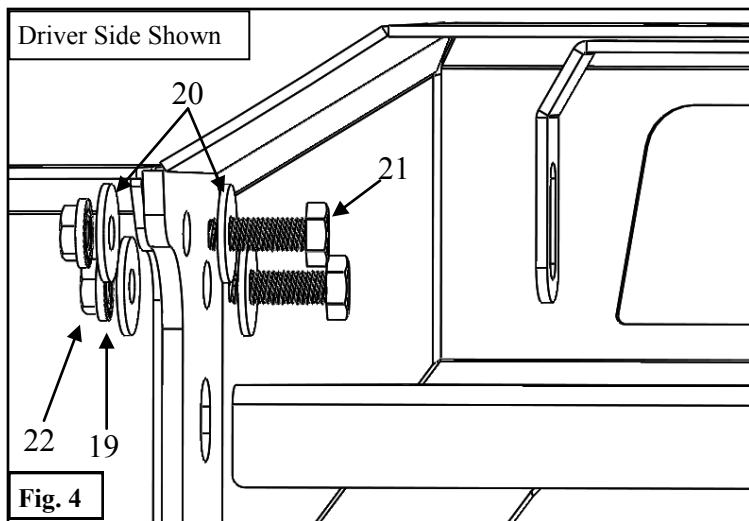

Fig. 4
6. Use the supplied M10 Hardware to attach each Side Pod Assembly (1,2) to the Center Section (3). See **Figure 4**.